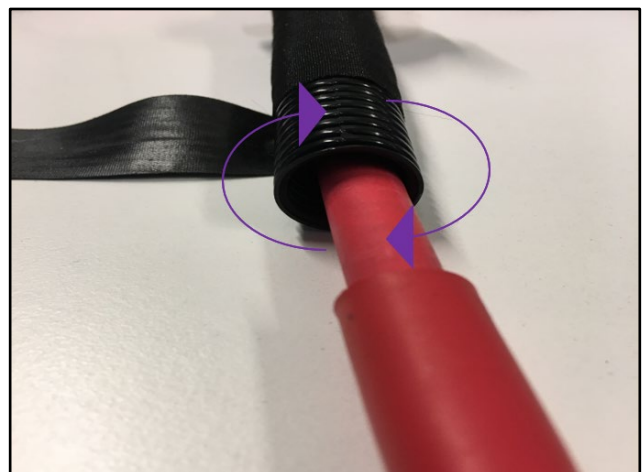

Figure 4
6. Use an applicable tool to remove the tape for the EPAS cable (refer to Figure 4).